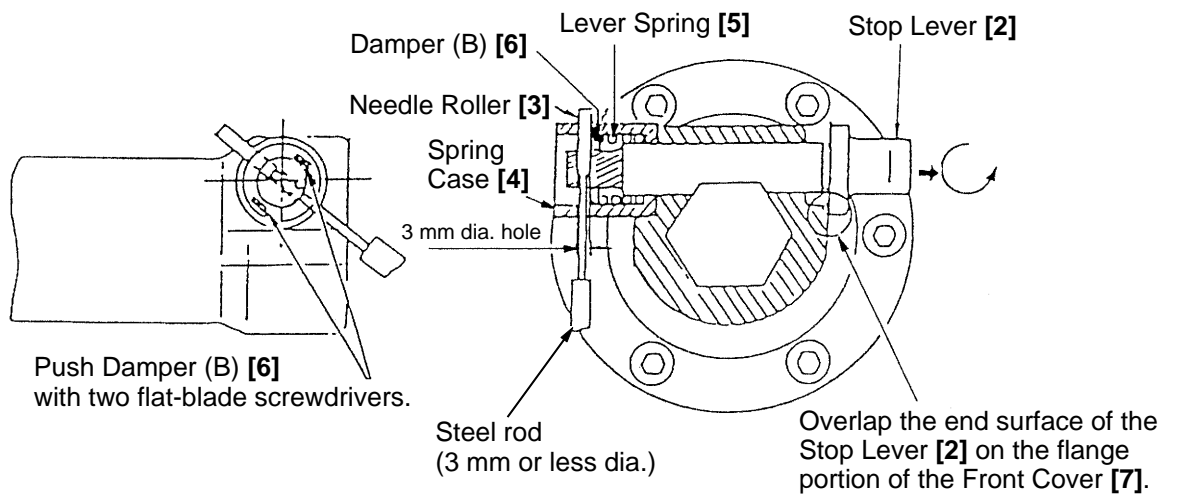

Fig. 9
Disassembly procedures are illustrated in Fig. 9. Pull the Stop Lever [2] outward in the direction indicated by the arrow, and turn it slightly so that its end surface comes to rest on the flange portion of the Front Cover [7]. Next, turn the Spring Case [4] so that the holes of the spring case are aligned with the Needle Roller [3]. Then, push in Damper (B) [6] with flat-blade screwdrivers to compress the Lever Spring [5]. Finally, while keeping the Lever Spring [5] compressed, fit a 3 mm or less dia. steel rod into the hole of the Spring Case [4], and push out the Needle Roller [3]. The Stop Lever [2], Damper (B) [6], and the Lever Spring [5] can then be taken out.